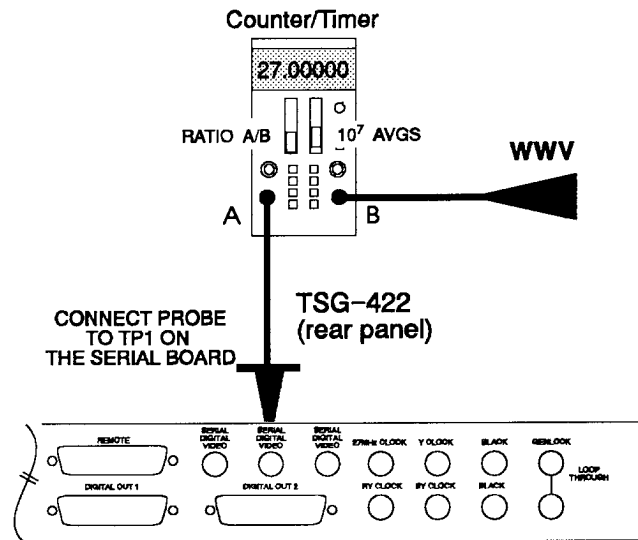

Fig. 5-13. Setup to check the Serial VCO.
- a. Connect the equipment as shown in Fig. 5-13. Connect the probe to TP1 on the Serial board.